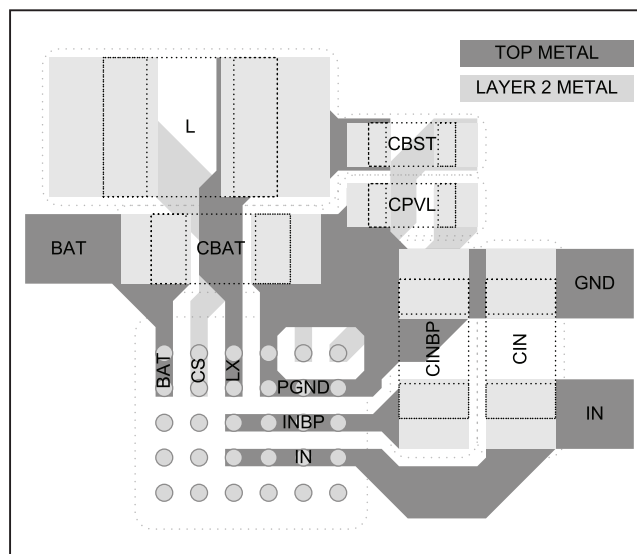
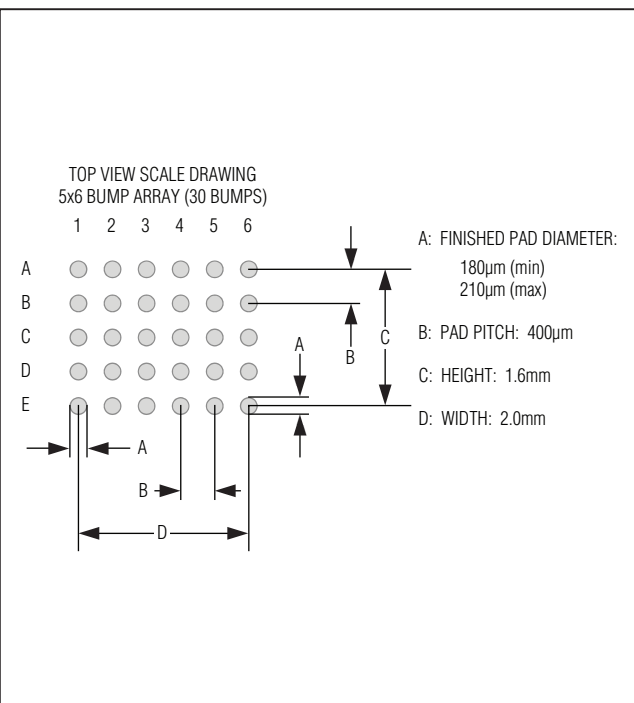
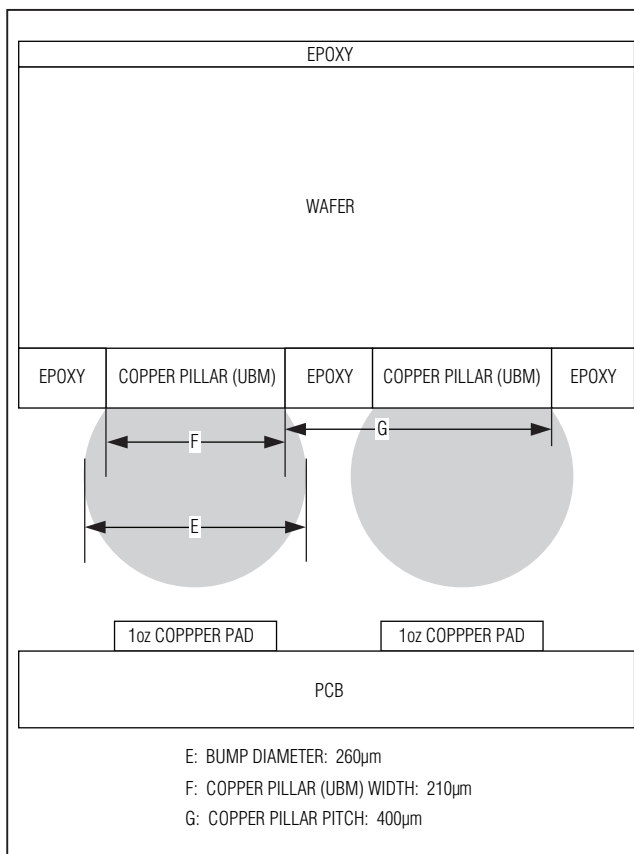

Figure 14. Power PCB Layout Example
Figure 15. Recommended Land Pattern
Figure 16. Bump Cross Section and Copper Pillar Detail
Figure 15 shows the recommended land pattern for the MAX8900\_. Figure 16 shows the cross section of the MAX8900\_'s bump with detail of the under-bump metal (UBM). The diameter of each pad in the land pattern is close to the diameter of the UBM. This land pattern to UBM relationship is important to get the proper reflow of each solder bump.
Careful printed circuit layout is important for minimizing ground bounce and noise. Figure 14 is an example layout of the critical power components for the MAX8900\_. The arrangement of the components that are not shown in Figure 14 is less critical. Refer to the MAX8900 Evaluation Kit for a complete PCB layout example. Use the following list of guidelines in addition to Application Note 1891: *Wafer-Level Packaging (WLP) and Its Applications* ([www.maxim-ic.com/ucsp](http://www.maxim-ic.com/ucsp)) to layout the MAX8900\_ PCB.
- 5) In Figure 14, the CS node is connected to the second layer of metal with vias. Use low-impedance vias that are capable of handling 1.5A of current. Also, keep the routing inductor current path on layer 2 just underneath the inductor current path on layer 1 to minimize impedance.
- 6) Both  $C_{BST}$  and  $C_{PVL}$  deliver current pulses for the MAX8900's MOSFET drivers. These components should be placed as shown in Figure 14 to minimize parasitic impedance.
In Figure 14, many of the top layer bump pads are connected together in top metal. When connecting bumps together with top layer metal, the solder mask must define the pads from  $180\mu\text{m}$  to  $210\mu\text{m}$  as shown in Figure 15. When using solder mask defined pads, please double check the solder mask openings on the PCB Gerber files before ordering boards as some PCB layout tools have configuration settings that automatically oversize solder mask openings. Also, explain in the PCB fabrication notes that the solder mask is not to be modified. Occasionally, optimization tools are used at the PCB fabrication house that modify solder masks. Layouts that do not use solder mask defined pads are possible. When using these layouts, adhere to the recommendations A through G above.